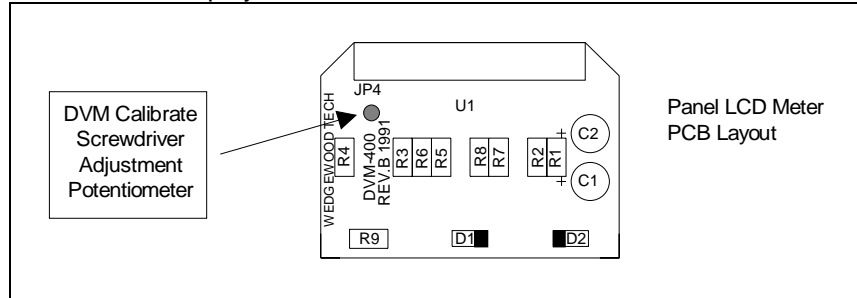

Figure 16 - Display Reading Calibration
9. Check that the front panel display reads the correct value +/- 1 digit on the front panel DVM. If the reading is off, the DVM span can be adjusted to bring the reading in line with the Voltage output. **Only trained personnel should attempt this adjustment.** Power down the instrument and remove the cable connectors on the rear of the instrument. Remove the instrument back panel and slide out the top cover plate, exposing the instrument internals. Re-connect the electrical connections and apply power to the instrument. Allow the unit to stabilize. Adjust the front panel display to read the correct value by carefully turning the control located on the display board. See figure 16.
11. Check that the front panel display reads the correct value +/- 1 digit. If the reading is off, the DVM span can be adjusted to bring the reading in line with the Voltage output (see figure 16). **Only trained personnel should attempt this adjustment.** Power down the instrument and remove the cable connectors on the rear of the instrument. Remove the instrument back panel and slide out the top cover plate, exposing the instrument internals. Re-connect the electrical connections and apply power to the instrument. Allow the unit to stabilize. Adjust the front panel display to read the correct value by carefully turning the control located on the display board.